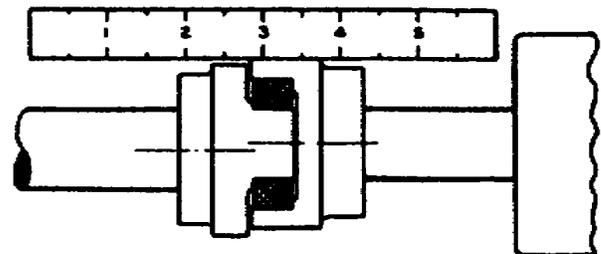

Figure 82. Checking parallel alignment.
- (1) Tighten the foundation bolts.
- (2) Tighten the pump and motor holddown bolts.
- (3) Check the gap and angular adjustment as discussed previously.
(4) Check parallel alignment by laying a straightedge across both coupling rims at the top, bottom, and both sides, as shown figure 82. The unit will be in horizontal parallel alignment when the straightedge rests evenly on both halves of the coupling at each side. In some special services a wide differential will prevail between the operating temperatures the pump and motor. Adjustment of alignment to satisfy such operating conditions must be governed by the specific application. The vertical difference of the shafts should be measured with a straightedge and feelers. To establish parallel alignment, thin shim stock is placed under the motor base. Occasionally, shims may be required under the pump base.
(5) Remember, alignment in one direction may alter the alignment in another. Check through each alignment procedure after making an alignment alteration.